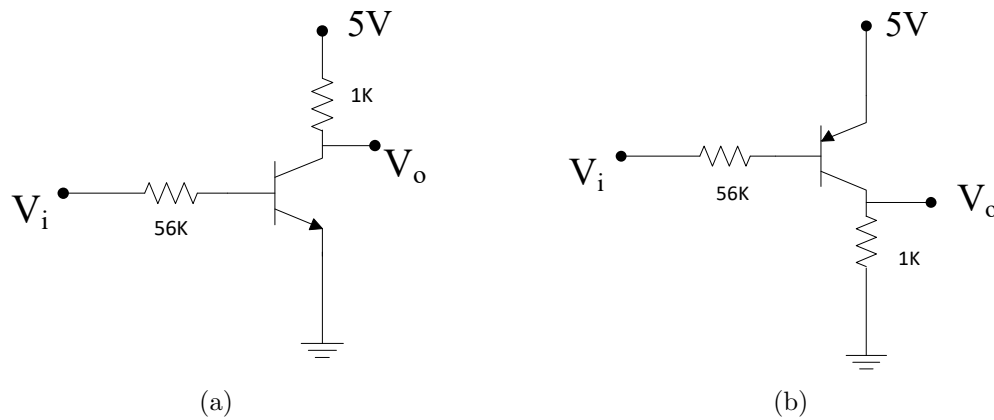

Figure 5.1: Operation modes of: (a) a npn BJT circuit; (b) a pnp BJT circuit.
- In Fig. 5.1(a), derive the relationship between  $V_i$  and  $V_o$  if  $V_{BEon}$  is 0.6 and  $\beta$  is 200
- In Fig. 5.1(b), derive the relationship between  $V_i$  and  $V_o$  if  $V_{EBon}$  is 0.6 and  $\beta$  is 200
- Construct the circuit in Fig. 5.1(a) using a 2N3904 npn BJT
- Construct the circuit in Fig. 5.1(b) using a 2N3906 pnp BJT